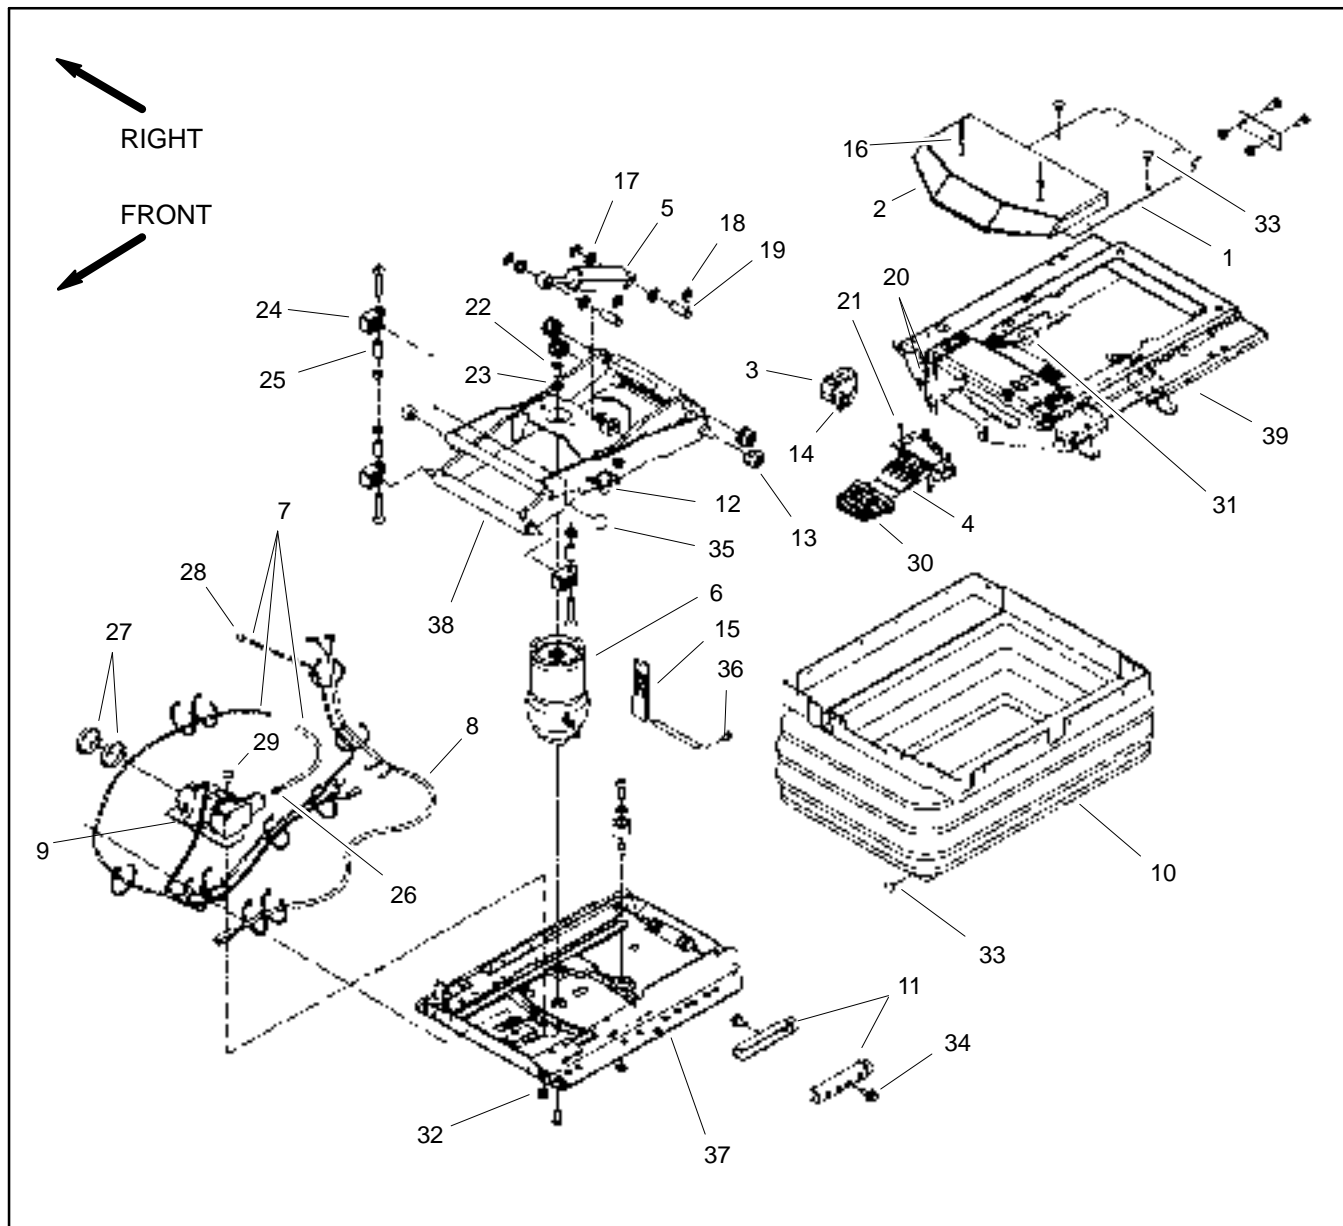
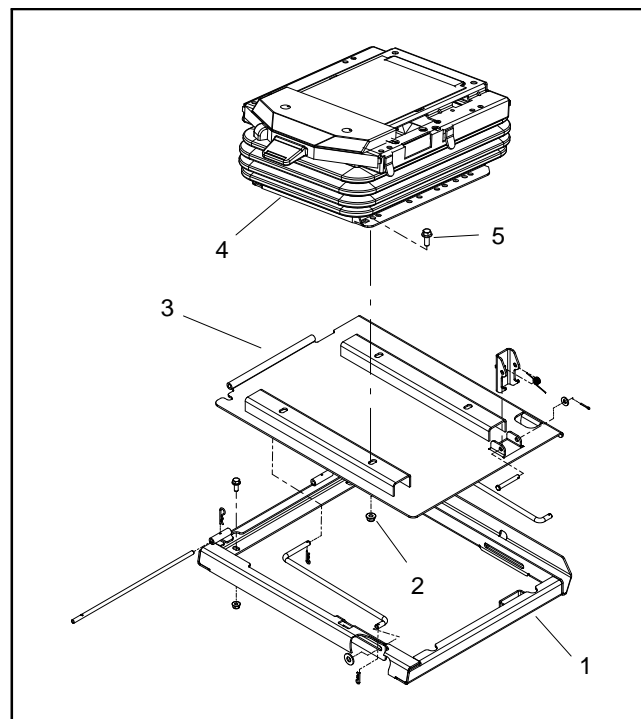

Figure 15
Figure 16
Disassembly (Fig. 15)
4. If the air spring assembly (item 6) or base plate (item 37) requires removal, remove seat suspension from seat plate (Fig. 16):
B. Remove four (4) flange head screws and flange nuts that secure seat suspension to seat plate.
5. Remove seat suspension components as needed using Figure 15 as a guide.
Assembly (Fig. 15)
1. Install all removed seat suspension components using Figure 15 as a guide.
2. If seat suspension was removed from seat platform (Fig. 16):
- B. Secure seat suspension to seat plate with four (4) flange head screws and flange nuts.